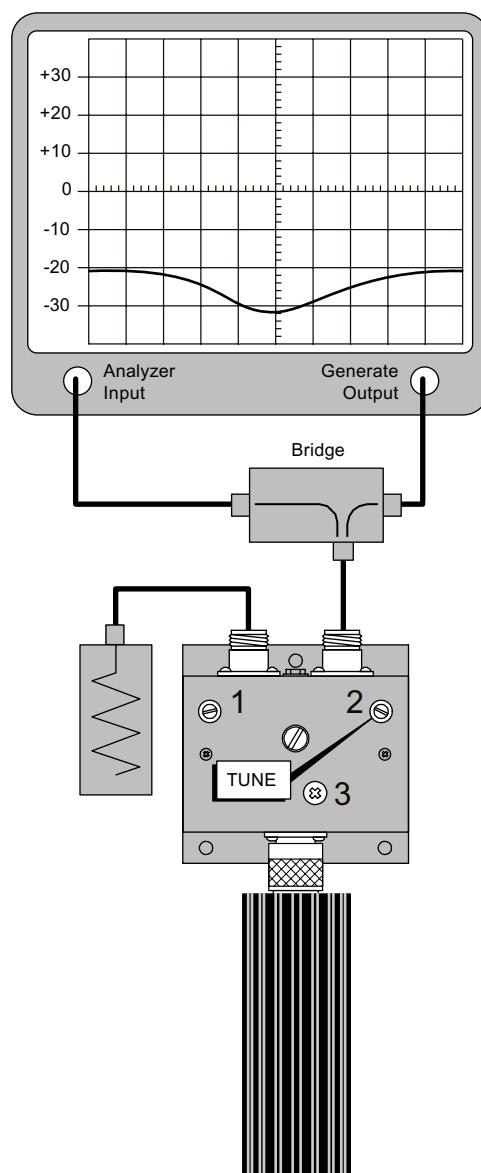

Figure 5: Tuning for max return loss (out port).
- 5) Reversing the bridge and load connections as shown in **Figure 5**, adjust capacitor #2 for maximum return loss at the desired center frequency.